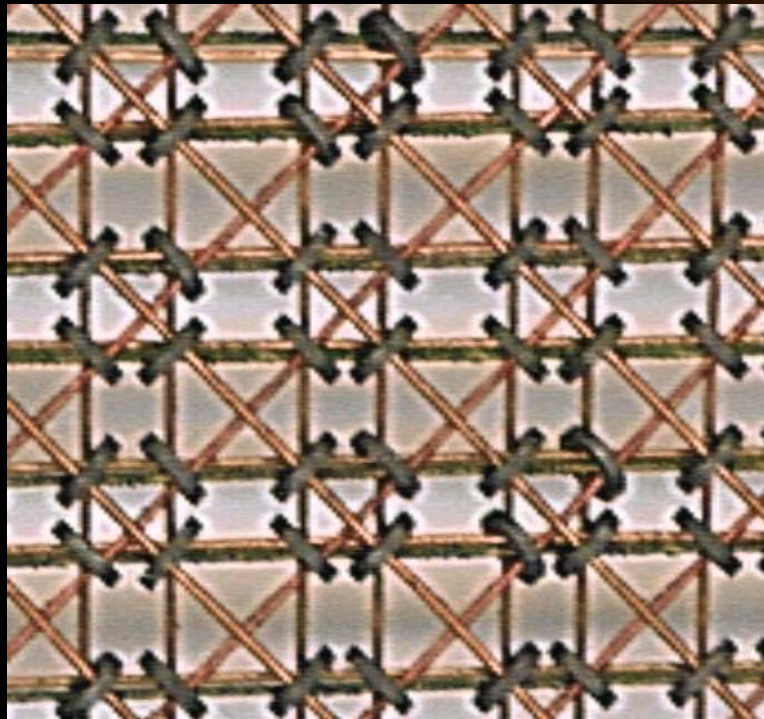

Figure 2: Close up scan of core memory
- Magnetic encoding was also in use for magnetic core memories (Figure 2).